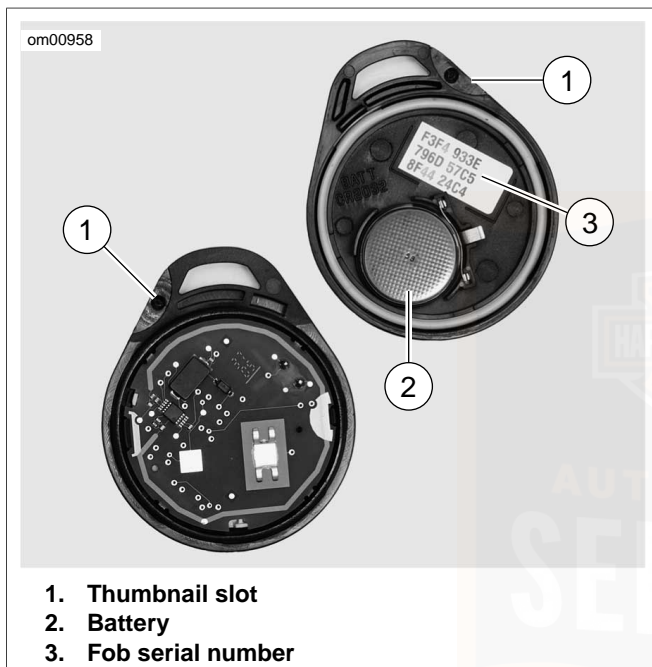

Figure 25. Hands-Free Fob Battery
1. See Figure 25. Slowly turn a thin blade in the thumbnail slot (1) on the side of the fob to separate the two halves.
2. Remove the battery (2) and discard.